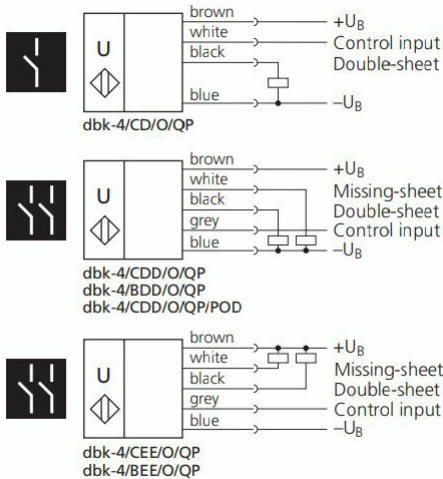

Fig. 4: Terminal assignment
- Connect the 4-core or 5-core control cable of the receiver as shown in Fig. 4.